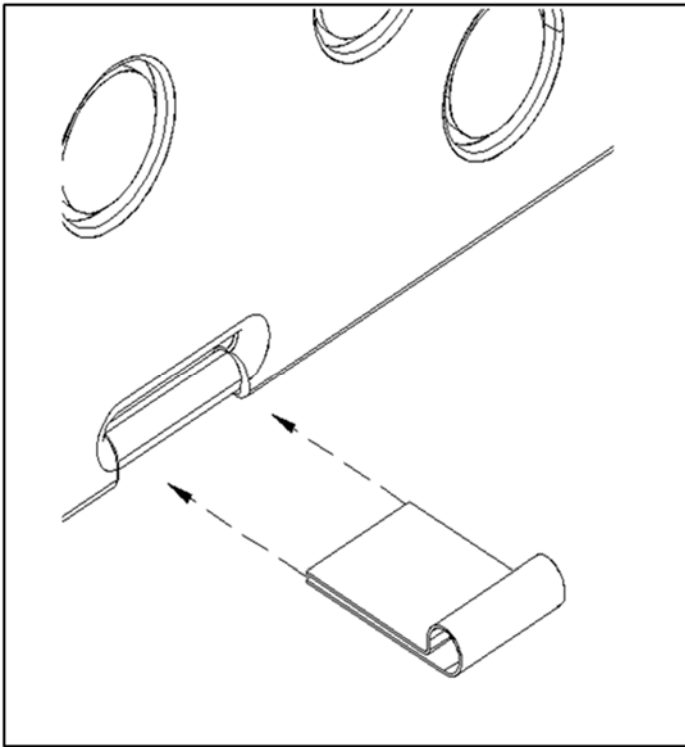

Fig 10 – Install Platform Attachment Straps
Step 5. Use the platform straps to attach blind to platform or tower (see fig 10 & 11). Use bolts, Washers and locknuts or deck screws with finishing washer to prevent fasteners from pulling through strap. Platform straps may be rotated to fasten blind to floor or to side of platform. For best door operation, insert door latch locking pin to keep door square in frame while attaching assembled blind to platform.